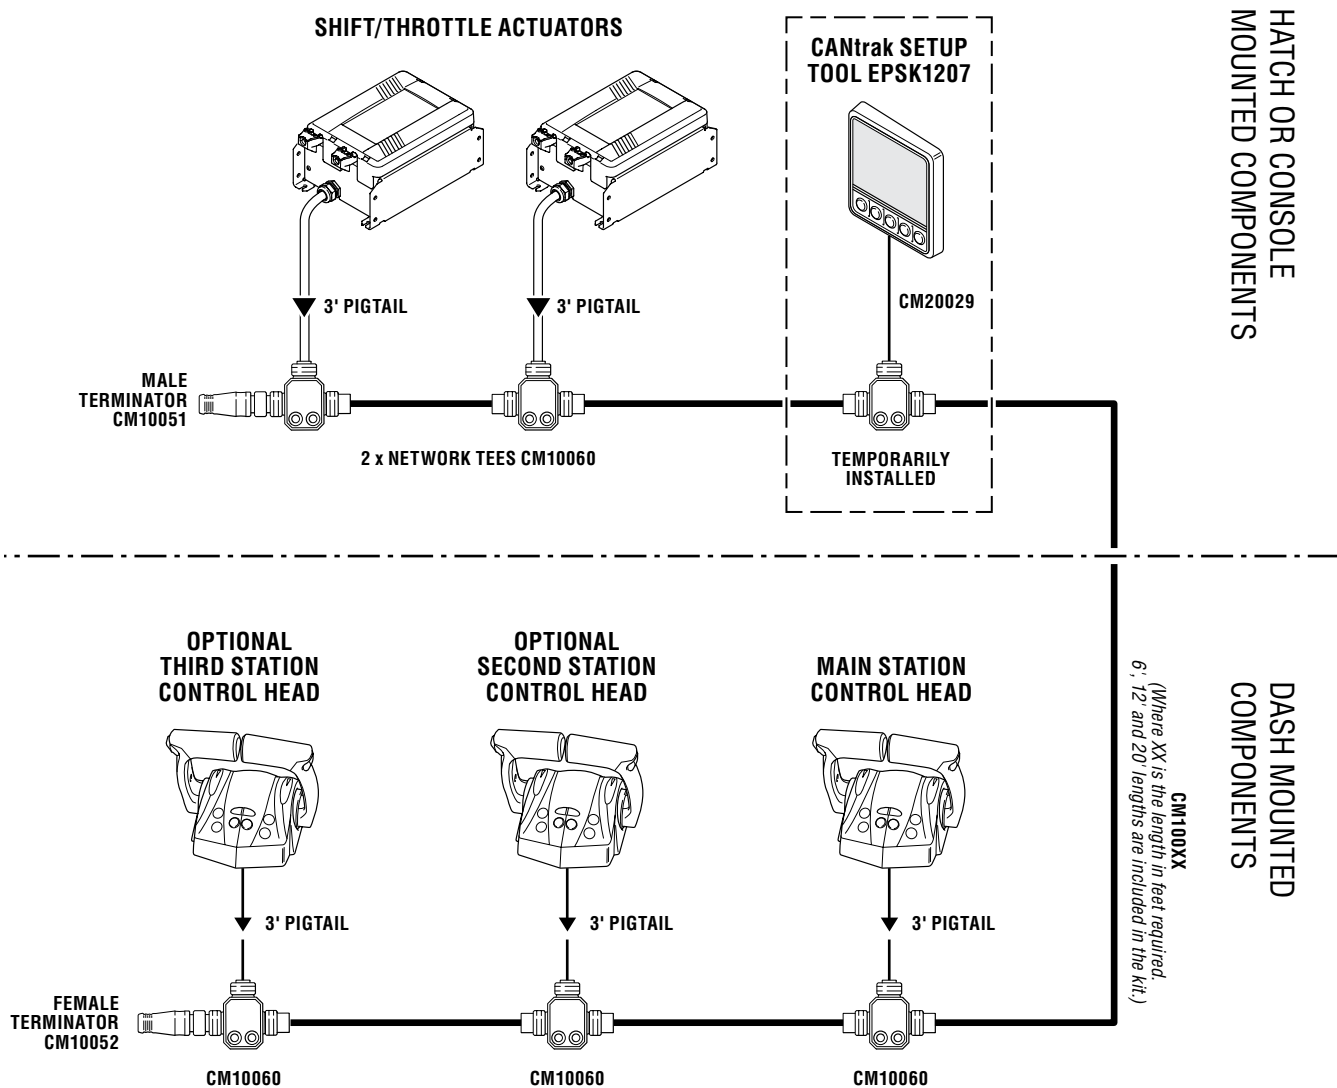
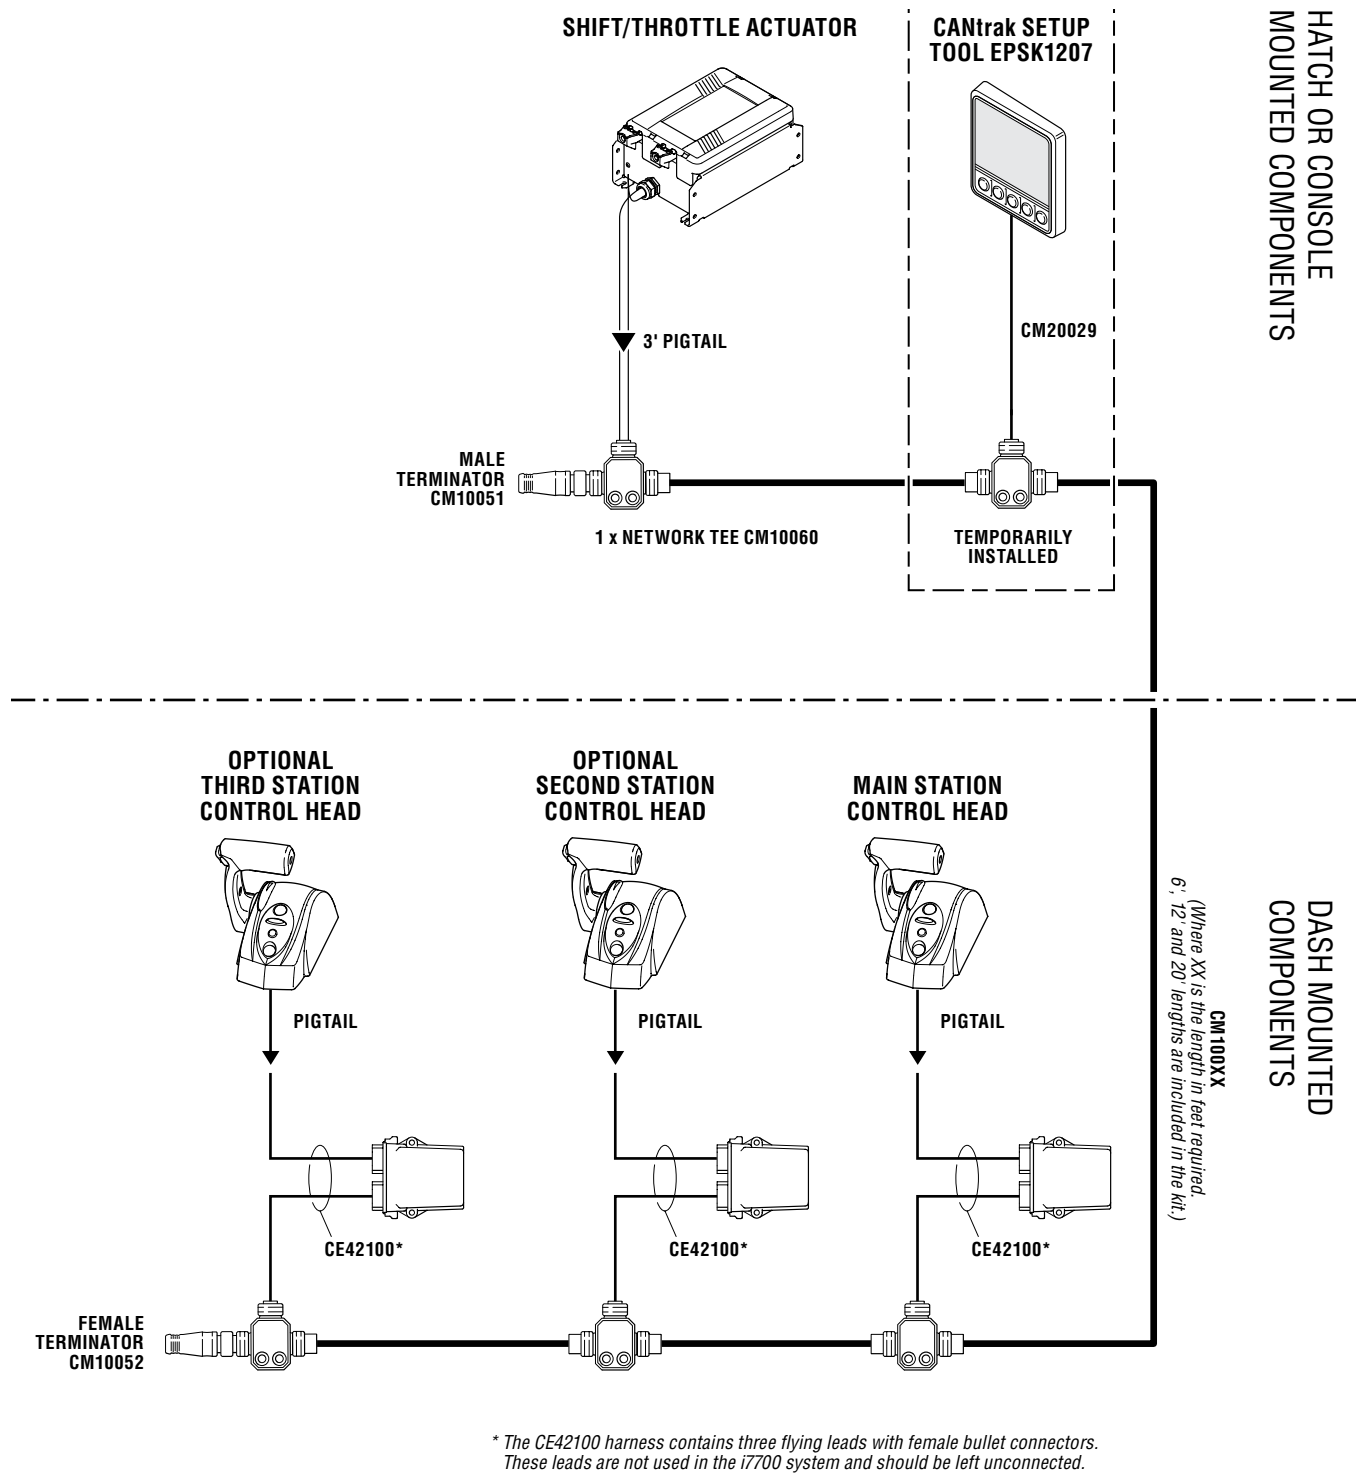
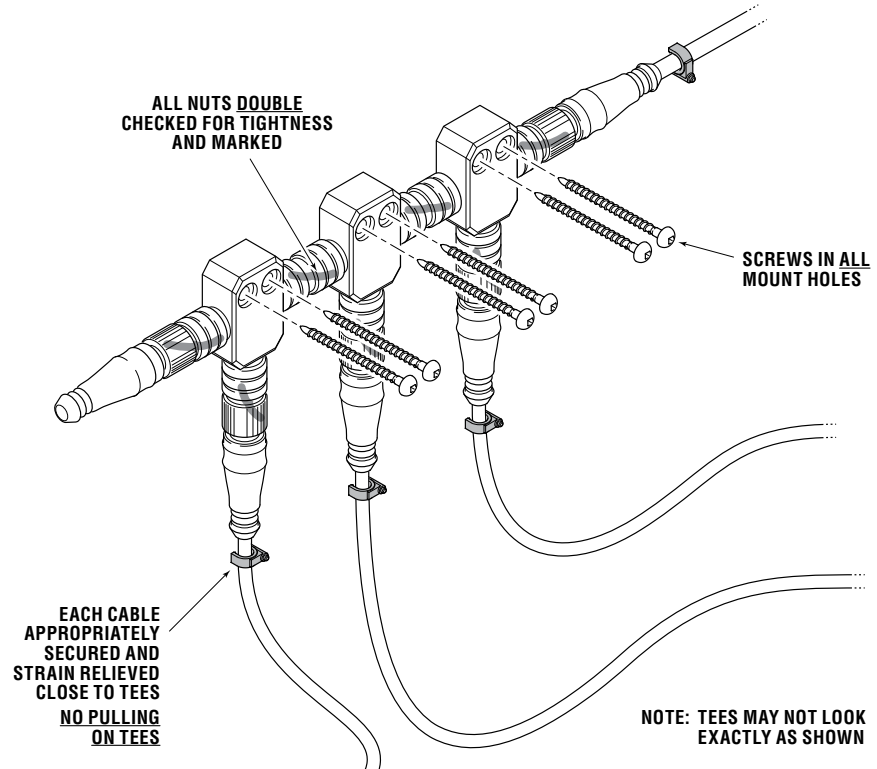

Figure 3-4. CAN2 wiring diagram, triple station, twin engine.
Figure 3-5. CAN2 wiring diagram, triple station, single engine.
Figure 3-6. Correct CAN2 tee installation example.
Figure 3-4 and figure 3-5 show the CAN2 network wiring for single and dual station applications. All tees *must* be secured using both screw holes, and the cable drops at each tee must be appropriately secured and strain-relieved to prevent any pull on the tees. See figure 3-6 for proper tee installation example.
**TIP:** Once you've tightened the nuts on the tees, mark them with a permanent marker as shown in figure 3-6. This makes it easy to inspect them for tightness later.